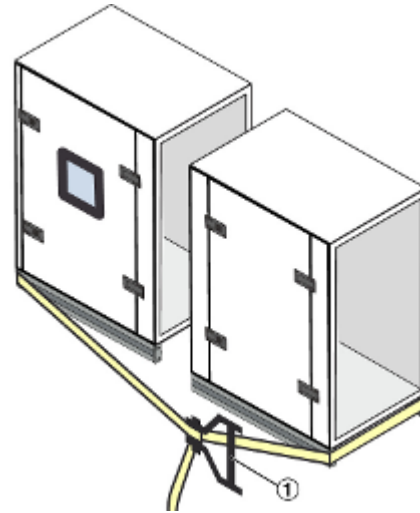

Fig. 14: Attaching a ratchet strap to units with base frame
7. ▶ Attach a ratchet strap to the base frames of two AHU casing units (Fig. 14).